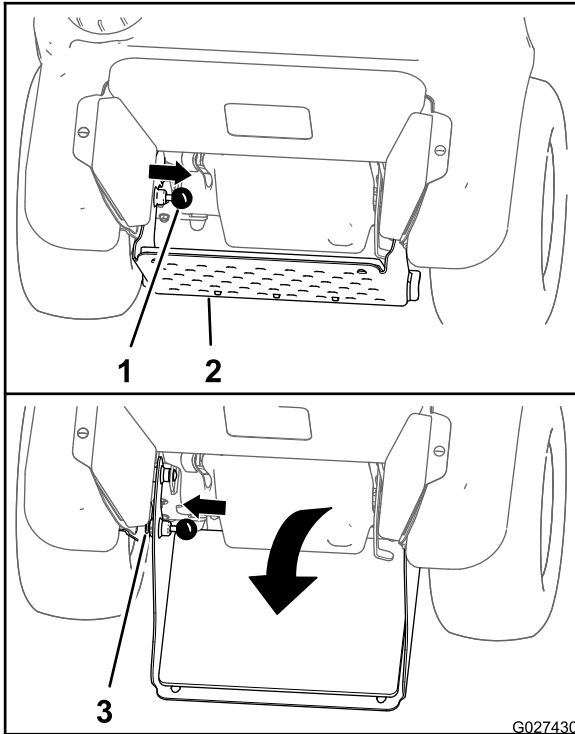

Figure 19
1. Pull inward the knob for the platform lock until the pin of the lock clears the upper hole in the chassis (Figure 19).
2. Rotate the operator's platform down until the pin of the platform lock is aligned with the lower hole in the chassis (Figure 19).
3. Move the knob for the platform lock outward until the pin for the lock is protruding through the lower hole (Figure 19).
2. Rotate the operator's platform up until the pin of the platform lock is aligned with the upper hole in the chassis (Figure 19).
3. Move the knob for the platform lock outward until the pin for the lock is protruding through the upper hole (Figure 19).